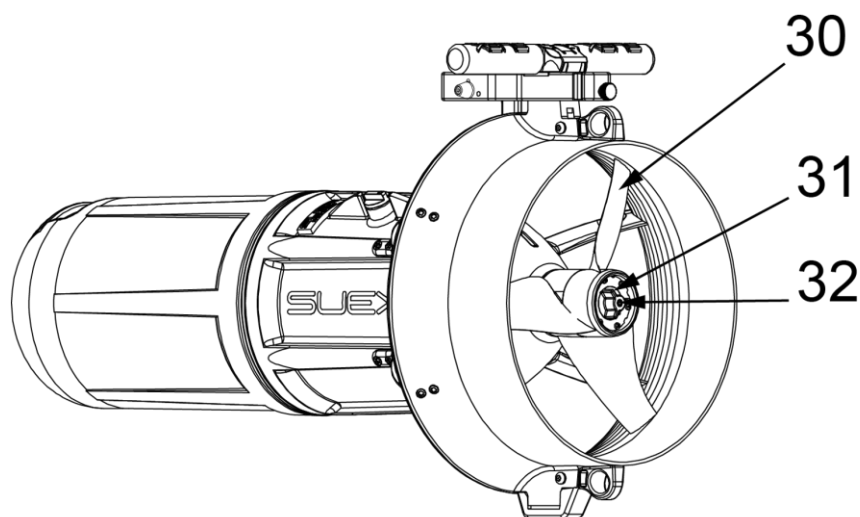

Fig 32 - Propeller extraction
Grasp the propeller by a blade (30 -Fig 32 - on p. 39) and unscrew the knob (31), turning anticlockwise until the propeller is completely extracted.